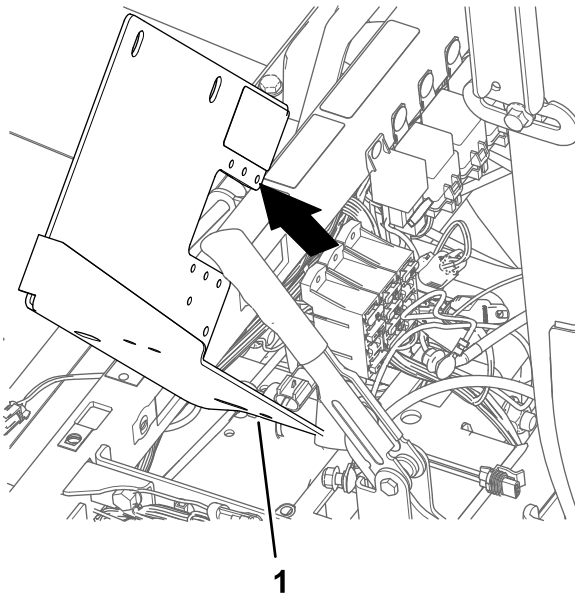

Figure 172
6. Remove the battery bracket from the machine (Figure 172).